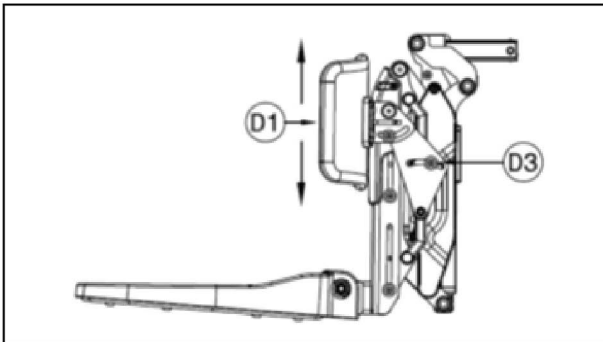

Fig 8
(2) Calf-pad height adjustment.
- (a) Use Allen key to loosen the screw <D3>. (Fig 8)
- (b) Adjust the calf-pad <D1> to desired position. (Fig 8)
- (c) Use Allen key to tighten the screw <D3>. (Fig 8)